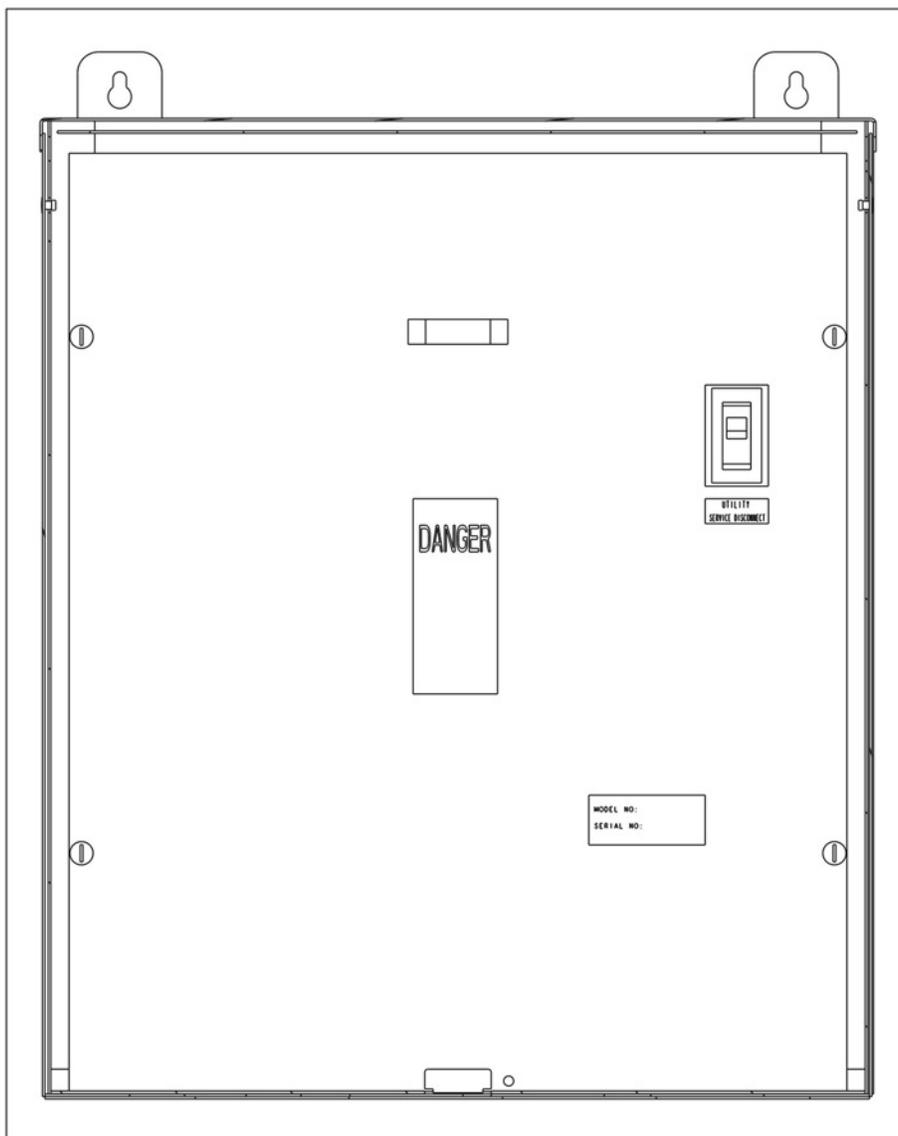
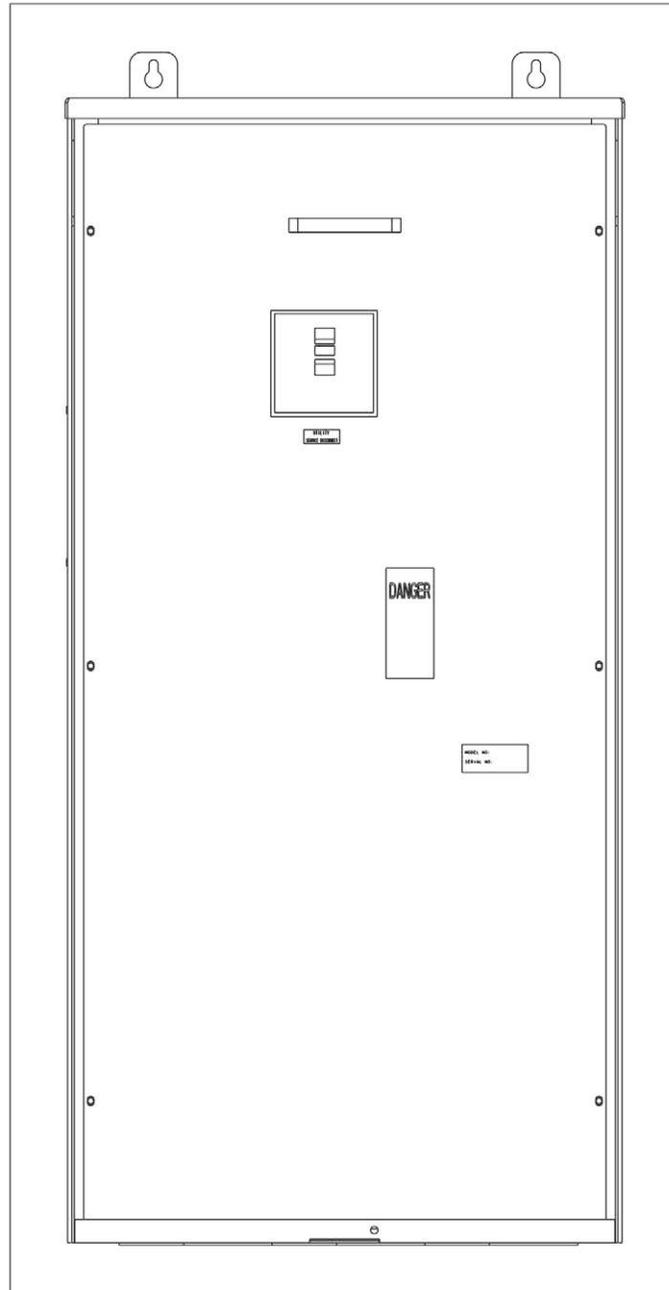

FIGURE 12. RA112S3 AND RA212S3 SERVICE ENTRANCE MODELS
FIGURE 13. RA412S3 SERVICE ENTRANCE MODEL
- *Service entrance models:* A model and serial number label is located on the inner panel. To view the label, remove the outer panel (see Figure 12) and Figure 13.